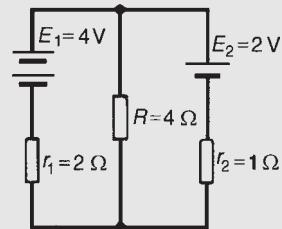

Figure 13.4
**Problem 2.** Use Kirchhoff's laws to determine the currents flowing in each branch of the network shown in Fig. 13.4